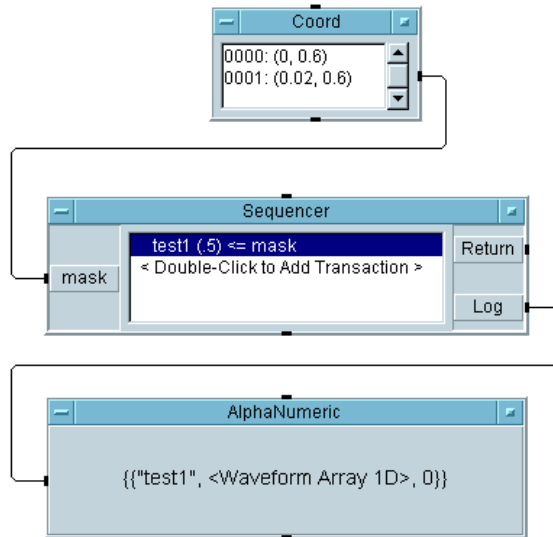

Figure 244 Comparing a Waveform to a Mask
- 8 Save the program as **seqdat3** and run it. It should look like Figure 244.